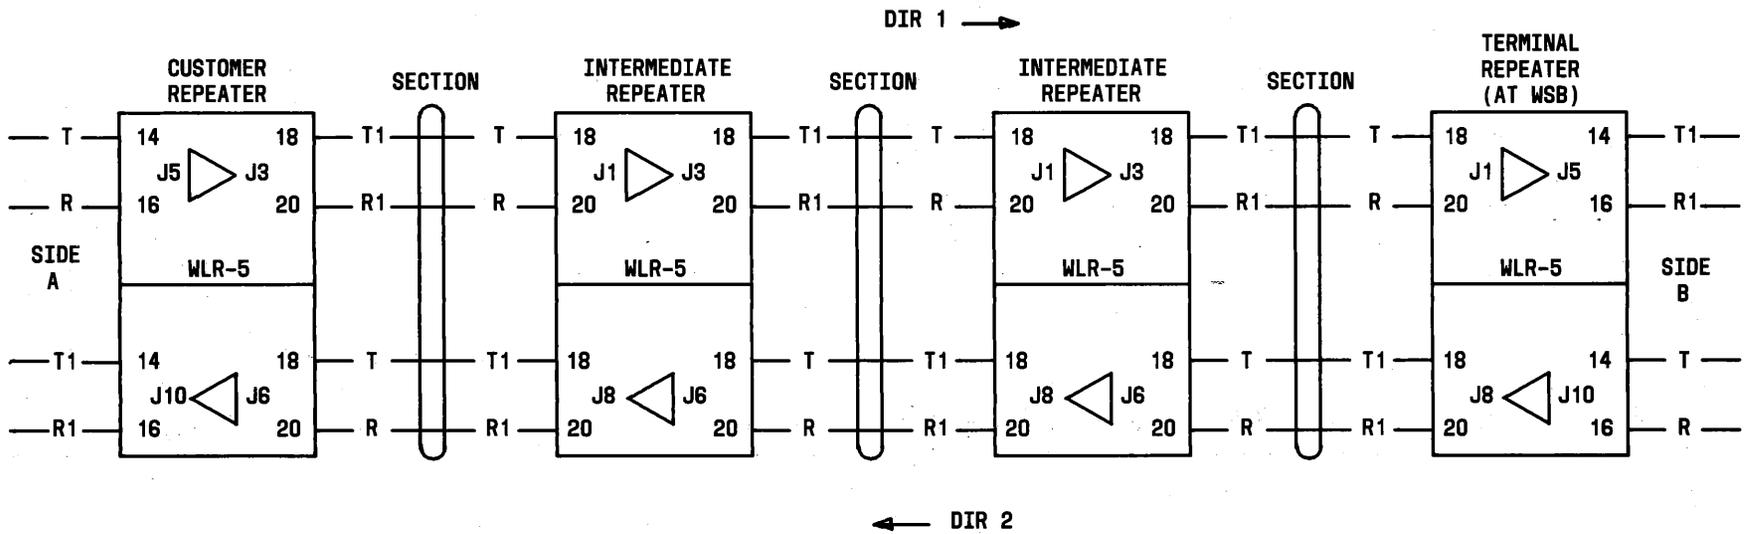

Fig. 1—Typical Three Section Wideband Data Loop
1.01 This section describes the lineup and test procedures performed by central office and data telco employees on a 4-wire wideband data loop (hereafter referred to as loop). This section is used when a loop is out of service. This is at initial service installation (company order) and during trouble clearing activity. Trouble clearing requires the customer to release the loop from service. The loop may consist of one section, or a maximum recommendation of three sections as shown in Fig. 1. Each section is equipped with WRL-5 repeaters which are equalized from 1
1.04 How to Use This Section: Read and become familiar with this section before attempting to use the procedures in Parts 3, 4, and 5. The GENERAL and TEST EQUIPMENT Parts are self-explanatory. REPEATER PREPARATION (Part 3) provides a list of steps to be performed for each repeater. After the data telco employee completes REPEATER PREPARATION, voice contact must be established with the central office telco employee to facilitate the performance of Parts 4 and 5. Part 4, TEST FOR TIP AND RING TURNOVER ON LOOP is optional based on the fact that this test should be made only if there is some reason to suspect that tip and ring continuity is not correct. The steps in Part 5, LOOP LINEUP PROCEDURE must be performed in both directions (see Fig. 1). Lineup of a multisection loop in direction 2 (Wideband Service Bay (WSB) towards customer) must be completed before direction 1 lineup (customer towards WSB) is started. After loop lineup is completed, a reference (benchmark) measurement of impulse noise and/or dynamic error-run test must be made and the results recorded.